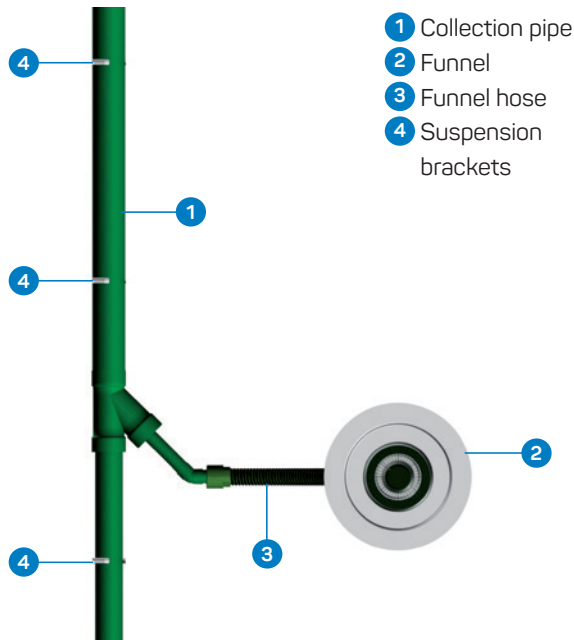

Figure 6.5: Top view of connection method 1
- Connection method 1 is recommended as the first choice (see figures 6.5 and 6.6 on page 35). The position of the horizontal collection pipe is, projected in the horizontal plane, approximately 1,000 mm from the line on which the funnels are positioned. This distance can be smaller if connection method 4 is used.
The most common practice, where the funnel hose is connected at right angles to the collection pipe via a 45 degree T-piece, is shown in figures 6.5 and 6.6 on page 35.
The funnels are connected to the collection pipe using 45° T-pieces. The T-pieces are the same size as the diameter of the pipe in the direction of flow. The T-pieces have the same diameter on three sides. Eccentric adapters must be used if there is a change in diameter. These adapters can be used both for the funnel connecting pipe and for connecting the collection pipe which gets smaller in the opposite direction to the flow (see figures 6.5 and 6.6). The water always flows into the collection pipe from the side. The funnel and the funnel hose with which a collection pipe begins is always connected to a 45° bend.